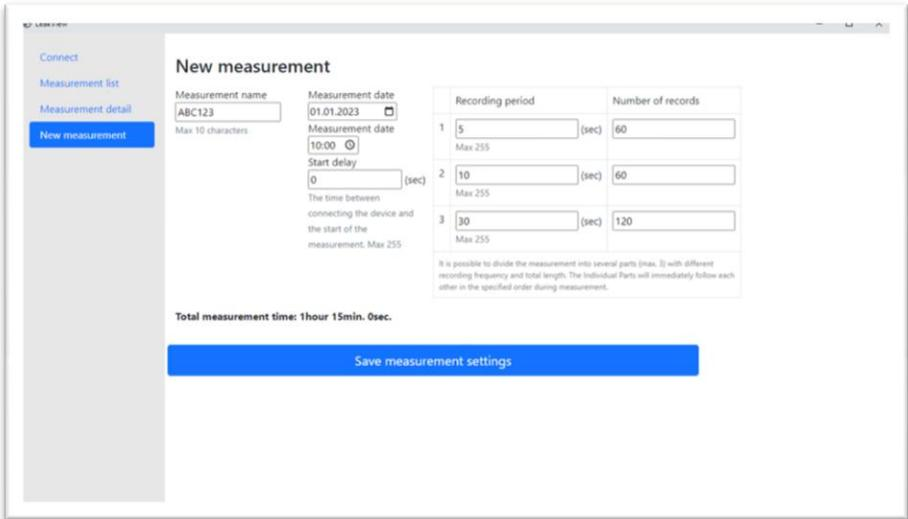

Fig. 4: Window for entering parameters
3. The new measurement window opens (Fig. 4).